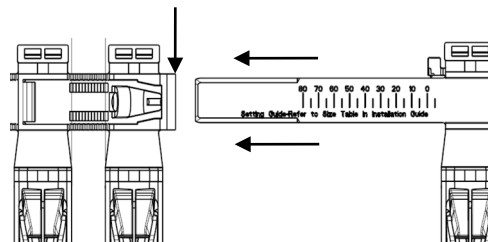

Fig. 1
Step 1. When you have established the appropriate setting guide position (see table on rear page), place the segments on a flat surface and insert the male section of each segment into the mouth of the screw housing on the next segment as indicated by the arrows (Fig. 1).
Step 2. Line up the leading edge of each screw housing (Fig 1.) with the appropriate number on the Setting Guide.